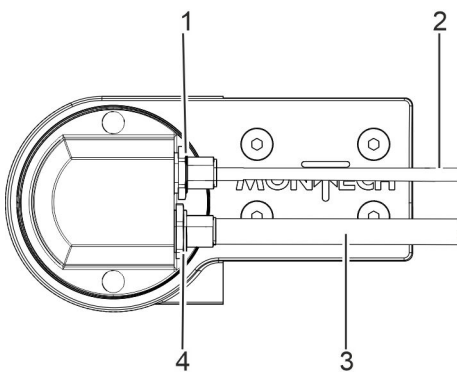

Fig. 34: Connecting MonTouch
- ➔ Plug the signal cable (Fig. 34/2) into the signal connection (Fig. 34/1) of the drive unit.
- ➔ Route and wire the signal cable (Fig. 34/2) to the PLC.
- ➔ Plug the TB40 power cable (Fig. 34/3) into the power connection (Fig. 34/4) of the drive unit.
- ➔ Route and wire the TB40 power cable (Fig. 34/3) to the power supply unit.